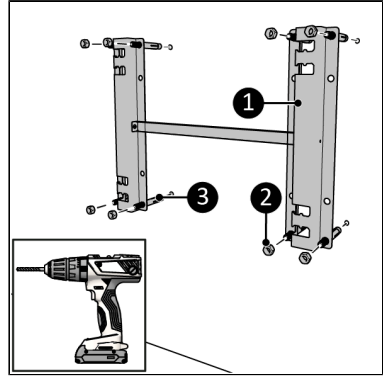

Figure 36.
1. Place the bracket against the wall, with the bracket openings at the left and mark the eight holes (Figure 36).
3. Place the anchor bolts (Figure 36, pos. 3).
4. Tighten the wall bracket (Figure 36, pos. 1) to the wall with the eight nuts (Figure 36, pos. 2).